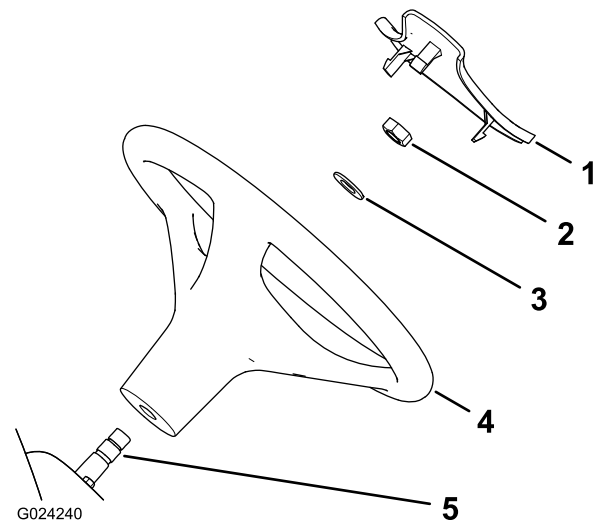

Figure 3
1. If the cover is installed, remove the it from the hub of the steering wheel (Figure 3).
2. Remove the nut from the steering shaft (Figure 3).
3. Slide the steering wheel and washer onto the steering shaft (Figure 3).
5. Install the cover on the steering wheel (Figure 3).